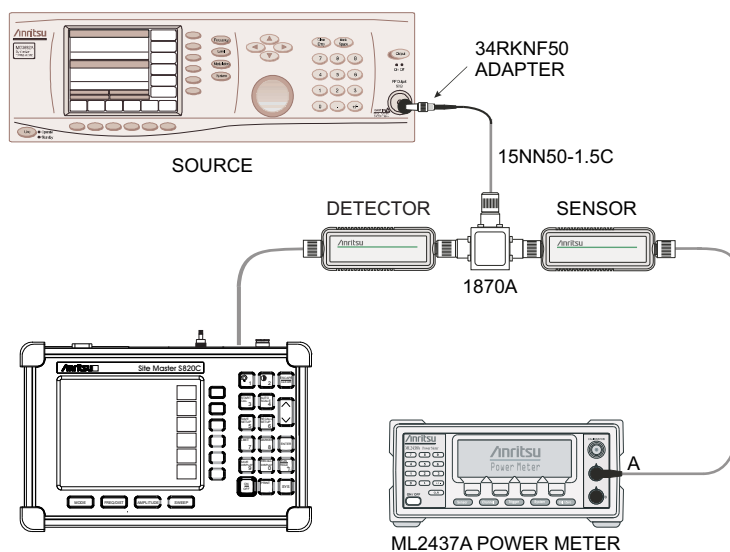

Figure 4. Power Monitor Verification Setup
6. Connect MG3692A, power meter, RF detector, Power Splitter and Power Sensor as shown in Figure 4.